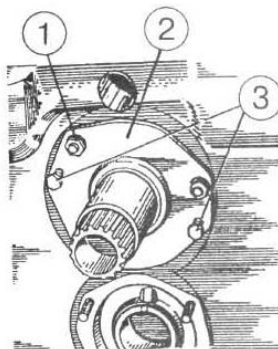

Figure 4.45
- unscrew three nuts 1 (Figure 4.45);